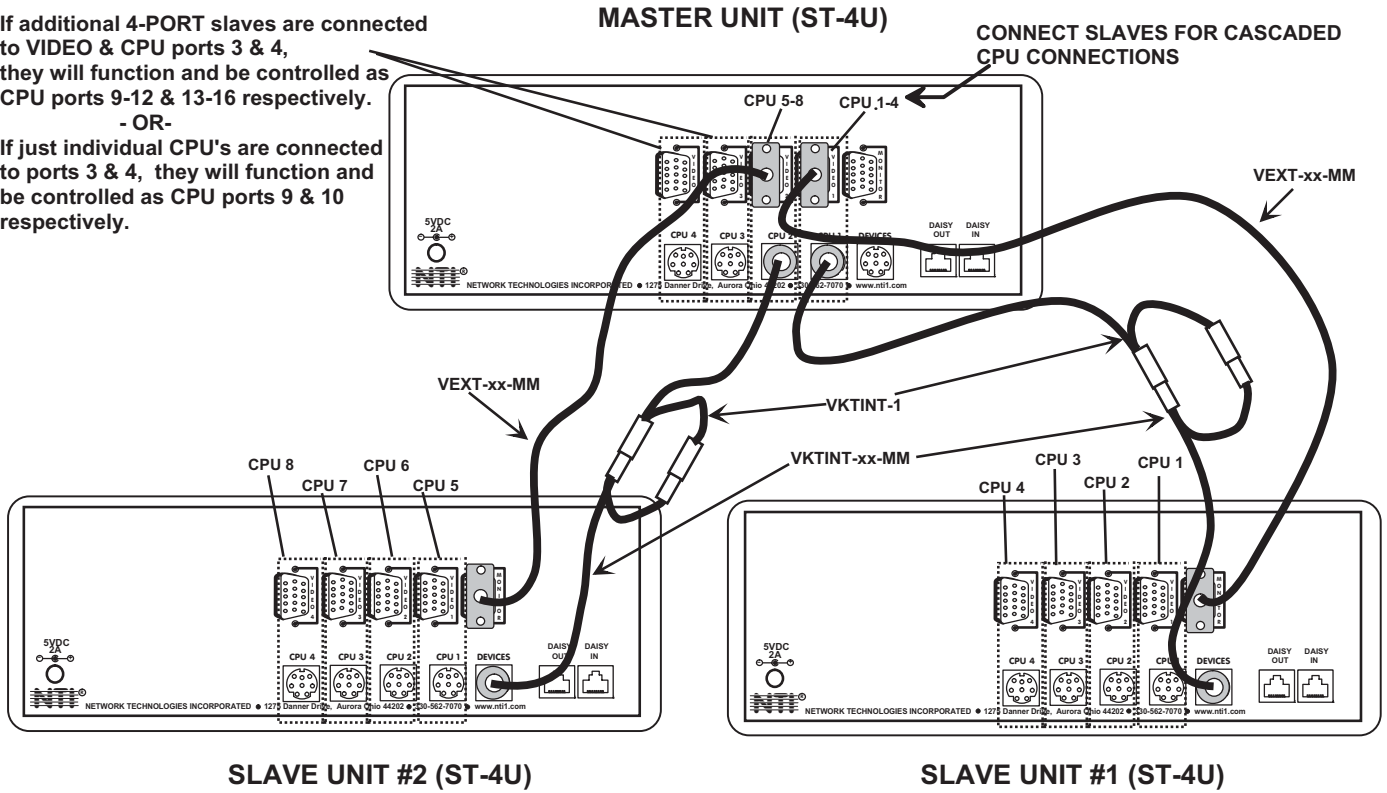

Figure 15- Basic cascaded master-to-slave cable connections
- Consecutive ports on the master used for locally connected CPU's will function and be controlled as the next consecutive port number. (I.e. Ports 3 and 4 of a 4-port master with only two 4-port slaves connected will function and be controlled as ports 9 and 10 respectively.) See Fig. 15 on page 12 for an illustration of this.
- With a VEXT-xx-MM cable, connect slave #1's "MONITOR" port to the master's "VIDEO 1" port (see Fig. 15 on page 11).
- With an SKTINT-xx-MM or VKTINT-1/VKTINT-xx-MM pair or MKTINT-xx-MM, connect slave #1's "DEVICES" port to the master's "CPU 1" port (see Fig. 15 on page 12 and the cables and adapters chart on page 10).